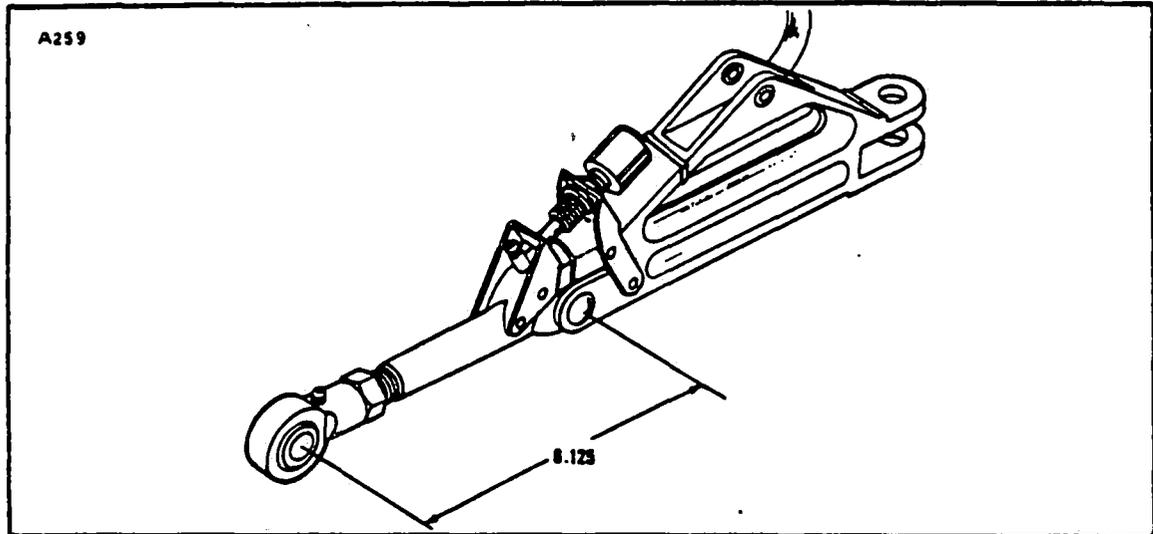

Figure 7-10. Adjustment of Main Landing Gear Drag Link
- a. Insert a gear support bearing (43 and 48) in each support fitting (11 and 18) and secure with snap rings (45).
1. Place a spacer washer (17), 0.035, P/N 19513-10, or original number of washers and then the forward support fitting (18) on the forward support arm of the strut housing.
2. Slide the barrel nut (47) into the forward strut arm and insert the attaching bolt (49) with washer through the fitting into the arm.
4. Secure the aft support fitting (11) to the rear spar web with attaching bolts, washers and nuts.
6. Using the access hole behind the rear spar, insert the bungee tube (10) with washer (44) (0.125, P/N 14843-20) through the rear support fitting and into the rear strut arm using enough shim washers (12) between the rear support fitting and the strut arm to diminish end play of the strut housing. (Shim washers are available in sizes 0.035, P/N 19513-10; 0.062, P/N 14843-93; and 0.125, P/N 14843-20.)
7. Position the side brace support bracket (22) on the main spar web and secure with bolts and washers.
- c. Assemble the upper and lower drag links (24 and 27) with pivot bolt (26).
- d. Adjust the lower drag link to a dimension of 6.125 inches from center of the middle pivot bolt to center of the rod end bearing. (Refer to Figure 7-10.)
- g. Check for clearance between drag link middle pivot bolt head (26) and the main gear capstrip, and binding of the lower drag link and bearing by retracting and extending the gear by hand. If clearance is less than 0.062 of an inch between pivot bolt head and spar capstrip, additional shims (17) must be added between the strut arm and front support bracket.
- h. Install studs (14) in rear strut arm and safety with minimum 0.041 (Spec. MS20995C41) wire (13).
7-25. ADJUSTMENT OF MAIN GEAR SIDE BRACE LINKS. (Refer to Figure 7-10.) Disconnect the side brace link from the main gear strut housing, and adjust to maintain a distance of 6.125 inches between the center of the pivot bolt which attaches the upper drag link to the lower drag link and the center of the rod end bearing.